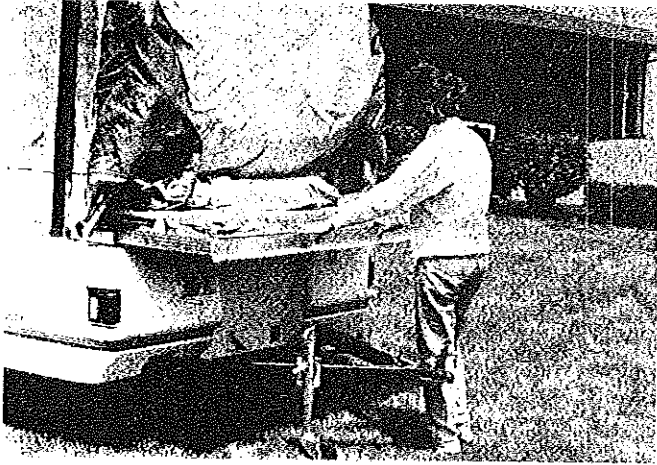

FIGURE 12
16. Standing right of center at the tongue end of the trailer, place hands (approximately 1 1/2 feet apart) on the bed frame and pull until the bed hits the stops. See Figure 12.